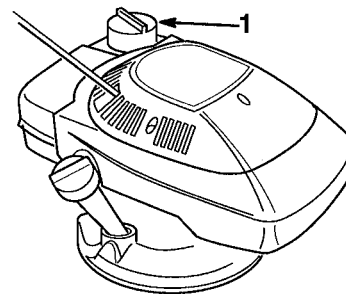

Figure 48
6. Fill fuel tank (Fig. 48) with fresh, clean gasoline mix.